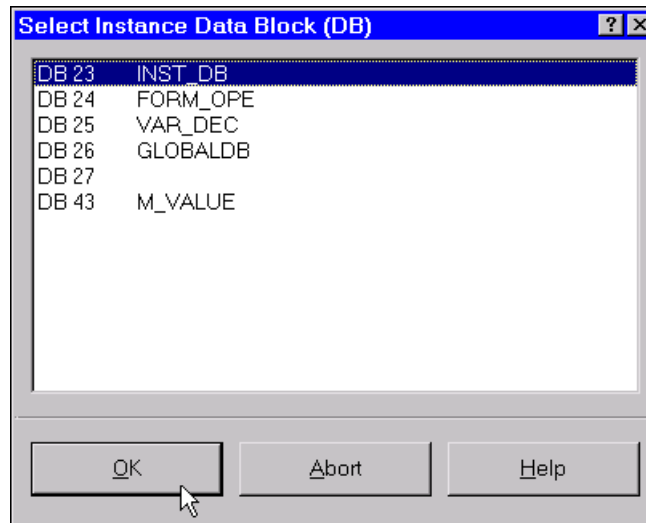
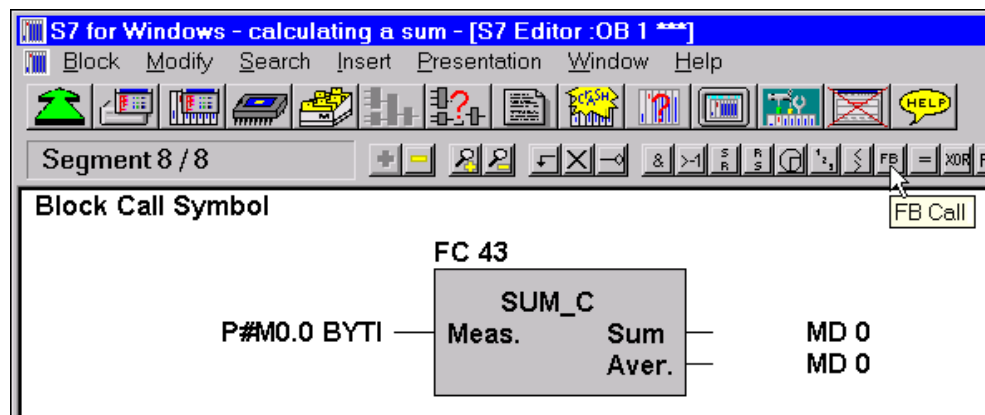

Figure 5-52 Select Instance Data Block (DB) dialog box
Figure 5-53 CALL function symbol
If a Function Block (FB) is selected, an additional dialog box is opened to select the Instance Data Block (DB). When calling a Function Block (FB), an Instance Data Block must be assigned. Mark the Data Block you want to assign to the Function Block (FB) as its Instance Data Block and confirm with the **OK** button. An example of the Select Instance Data Block (DB) is shown in figure 5-52. The figure 5-53 shows the function symbol of an FB Call.